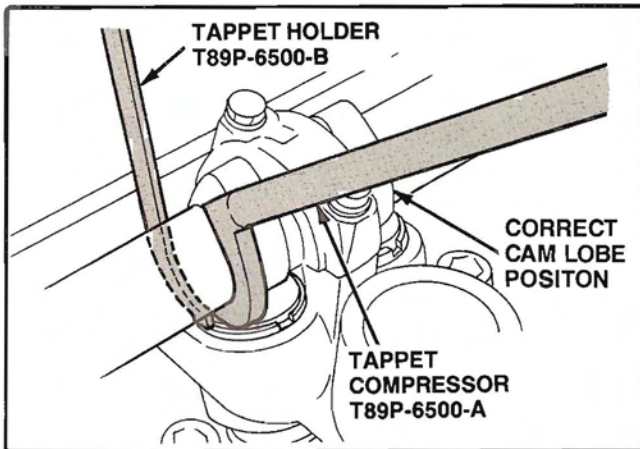

Figure 140. Tappet Compressor and Tappet Holder In Use
- Place Tappet Holder T89P-6500-B between the camshaft and edge of the valve lifter, then remove the Tappet Compressor (Fig. 140).